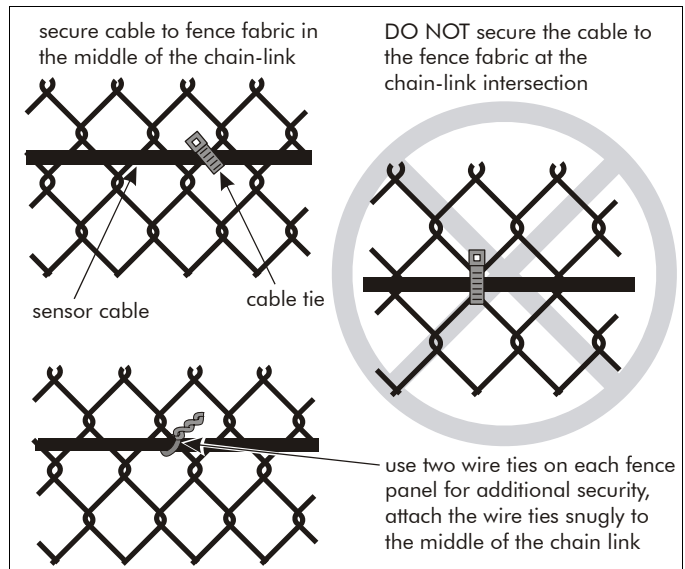

Figure 3 Secure cable at midpoint
- Secure the sensor cable to the fence fabric at the midpoint of the chain-link (See Figure 3). **DO NOT** secure the cable at the crossing points of the fence links.